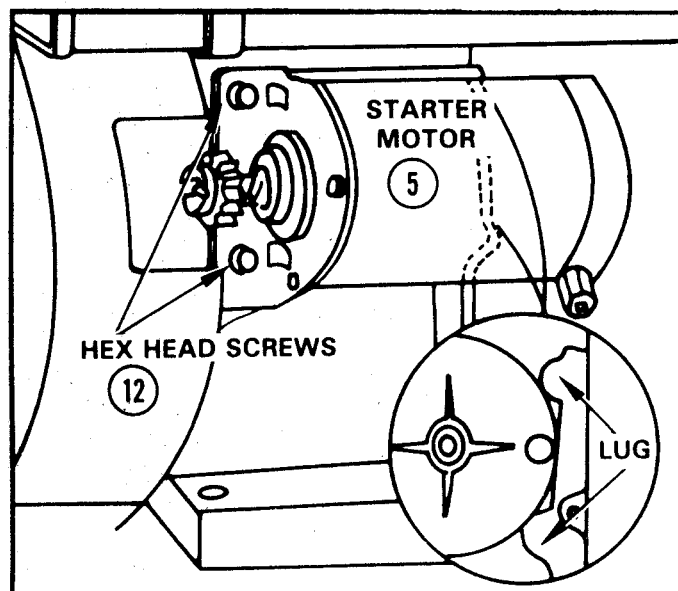

FIGURE 55
NOTE: TO PROVIDE ACCESS TO TOP HEX HEAD STARTER MOUNTING SCREW, ENGAGE GEARS AS SHOWN IN FIGURE 55.
2. Attach Starter Motor (5) to engine with 2 hex-head capscrews (12) and lockwashers (13). Be sure Starter Motor touches both lugs of cylinder. See Figure 55. Be sure to tighten screws securely.